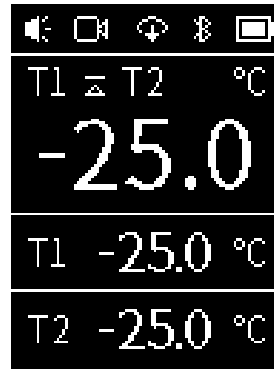

Figure 2
- 6.the dual (☰) temperature interface to enter the temperature difference interface, as shown in Figure 2, display the real-time temperature difference of the two thermocouples and display the real-time temperature of the two thermocouples at the same time, short press multiple times, and cycle through the temperature difference interface and the dual temperature interface ;